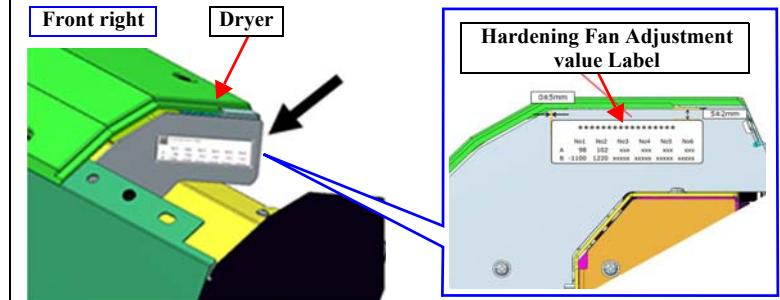

Figure 3-337.
- When replaced the Hardening Fan, paste a label with adjustment value that supplied together with a new Hardening Fan on the position shown in Figure 3-337.